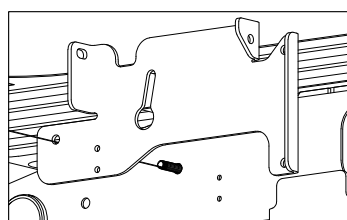
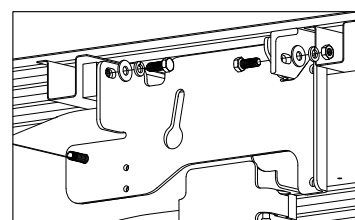

Figure C5: View from outside of Driver Side Frame.
Figure C6: View from outside of Driver Side Frame.
- 3. Install the sideplates.** Next, while the fish wire is still attached to the carriage bolt, thread the length of the fish wire through the mounting hole on the sideplate, see Figure C5. Next, attach the sideplate to the front and rear cross members using 1/2" hardware as shown in Figure C6.